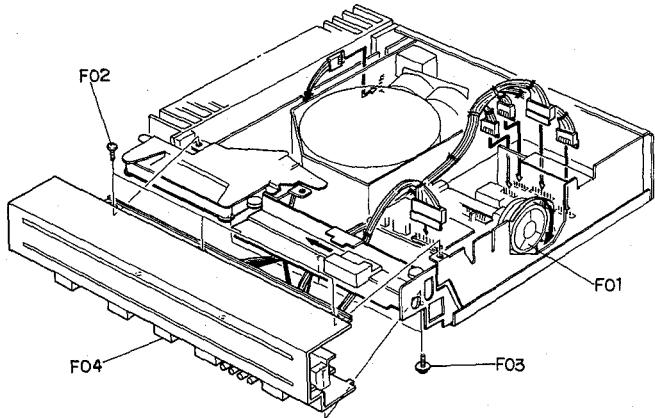

Fig. 3.3
Refer to Fig. 3.3. Remove Side Panel R, Top Cover Ass'y and Side Panel L referring to items 3.1 and 3.2. Turn F01 (Front-end Reel Ass'y) fully clockwise by hand. Remove F02, F03 and 10 connectors, then F04 (Front Panel Ass'y).